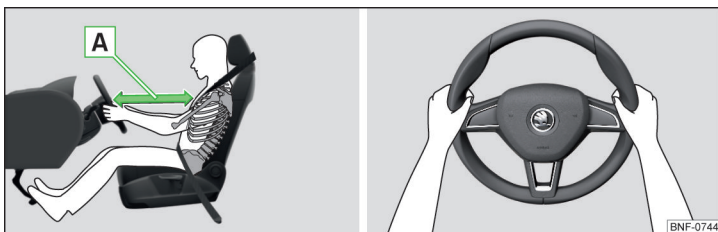

Fig. 2 Correct seated position for the driver/correct steering wheel position
- ✓ Adjust the steering wheel so that the distance **A** between the steering wheel and your chest is at least 25 cm » Fig. 2.
- When driving, hold the steering wheel with both hands firmly on the outer edge in the "9 o'clock" and "3 o'clock" position » Fig. 2. Never hold the steering wheel in the "12 o'clock" position or in any other way (e.g. in the middle, inner edge of the steering wheel or similar). In such cases, you could severely injure the arms, hands and head when the driver airbag is deployed.